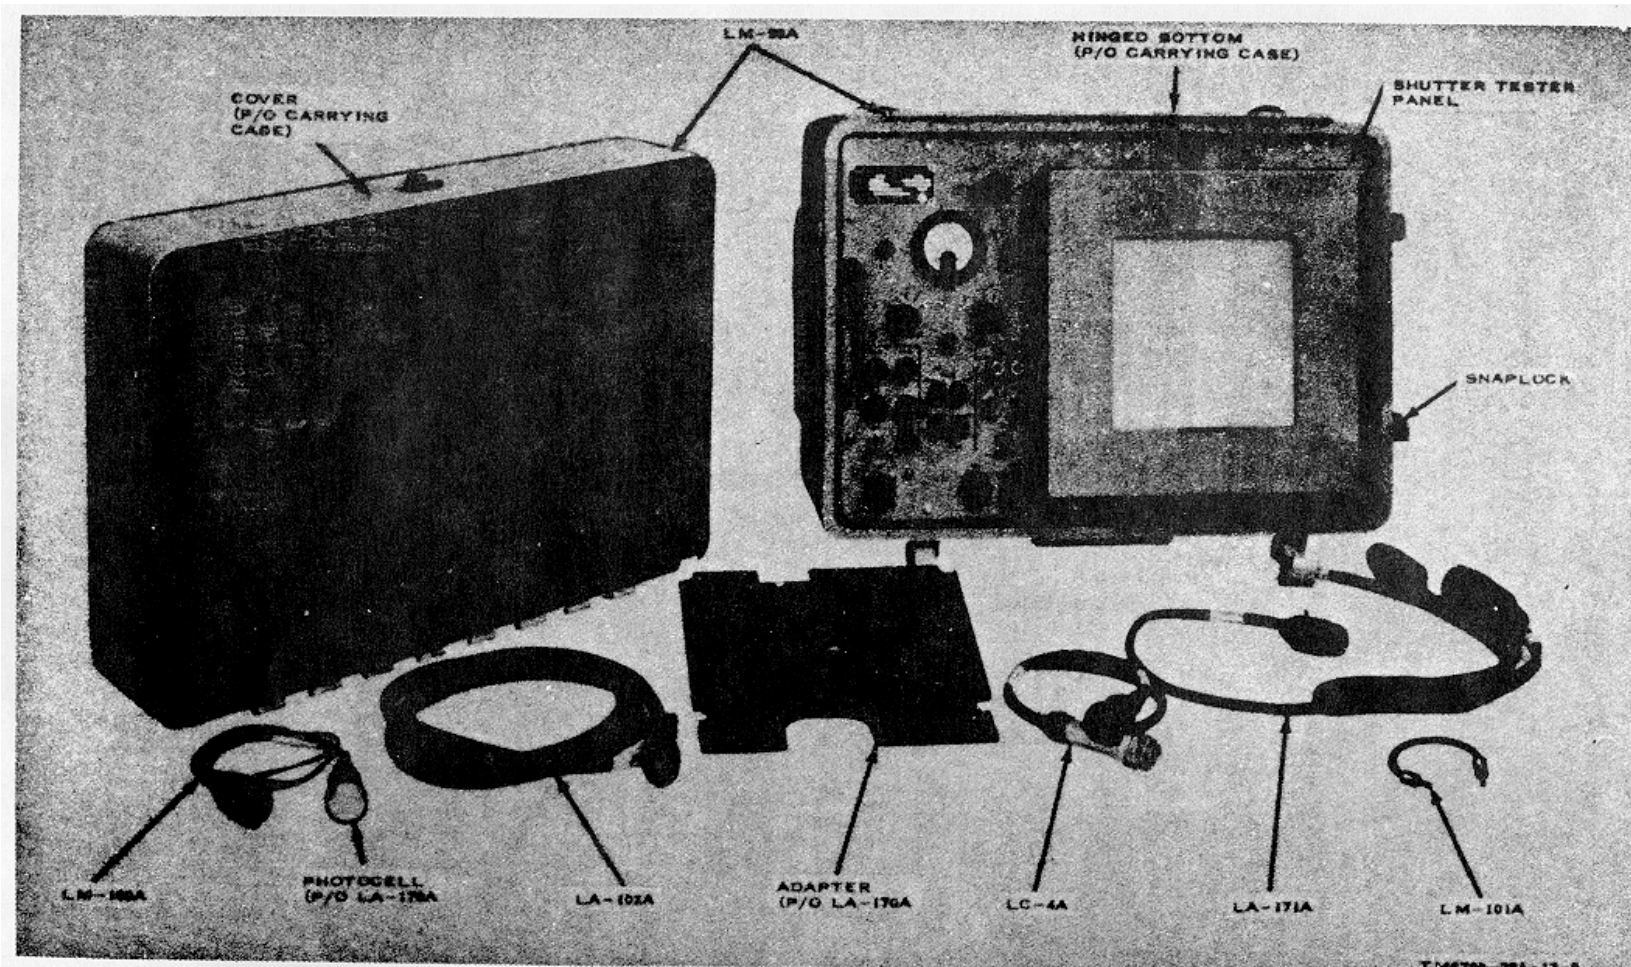

Figure 5. Testing Machine, Camera Shutter Speed LS-33A, less running spares.
- (3) *Testing Machine, Camera Shutter Speed LS-33A* (fig. 5). The LS-33A is used to test the effective exposure time (accuracy) and the ef-